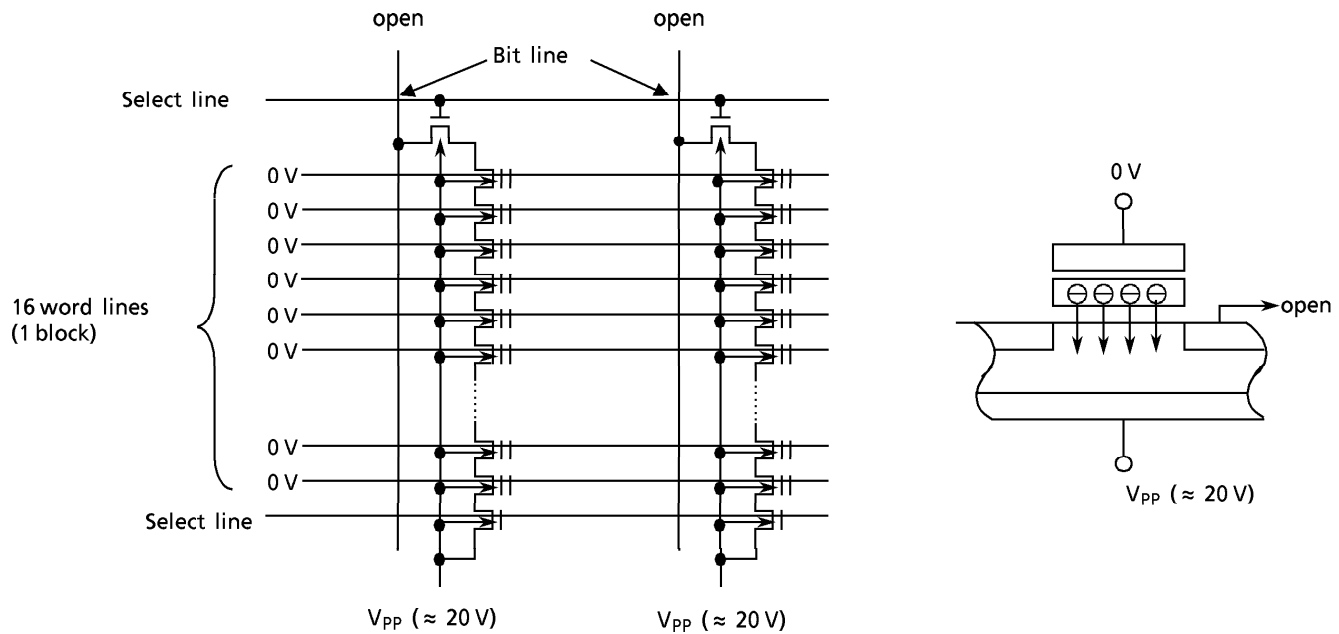

Figure 18. TC5816 Erase Device Physics
- (1) A high level is applied to Select line 1 and a low level is applied to Select line 2 so that the device is connected to the Bit line and disconnected from the ground line.
- (2) V_{pp} (≈ 20 V) is applied to the selected word line and an inhibit voltage of V_{PI} (≈ 10 V) is applied to the unselected word lines.
- (3) 0 volts is applied to the bit line tied to cell transistor TR1 and the inhibit voltage $VDPI$ (≈ 10 V) is applied to the bit line tied to TR2.
- (4) V_{pp} is applied between the control gate and the channel in TR1, as shown in Figure 18, which causes electrons to be injected from the channel to the floating gate by a tunneling mechanism.
- (5) The injected electrons are captured in the floating gate surrounded by an oxide layer and will remain, even after power is cut off, until they are removed by an Erase operation.
- (6) Although 20 volts is applied to the control gate of TR2, the voltage difference between the control gate and the channel is only 10 V because the voltage of the channel is 10 V. Therefore, tunneling does not take place (i.e. the electron is not injected into the floating gate.)
- (7) Tunneling does not take place in the unselected pages because of the 10 V (V_{PI}) applied to the unselected word lines which makes the voltage difference between the control gate and channel only 10 volts.
Figure 18 shows the NAND memory cell level details of the Erase mechanism. The Erase operation is used to turn the "0" (programmed) cells back to "1" in a block. The captured electrons are pulled out from the floating gate to the substrate by a tunneling mechanism. 0 volts is applied to the control gate and V_{pp} (≈ 20 V) is applied to the substrate so that a 20-volt potential is created and the electrons in the floating gate are pulled out by the tunneling mechanism.